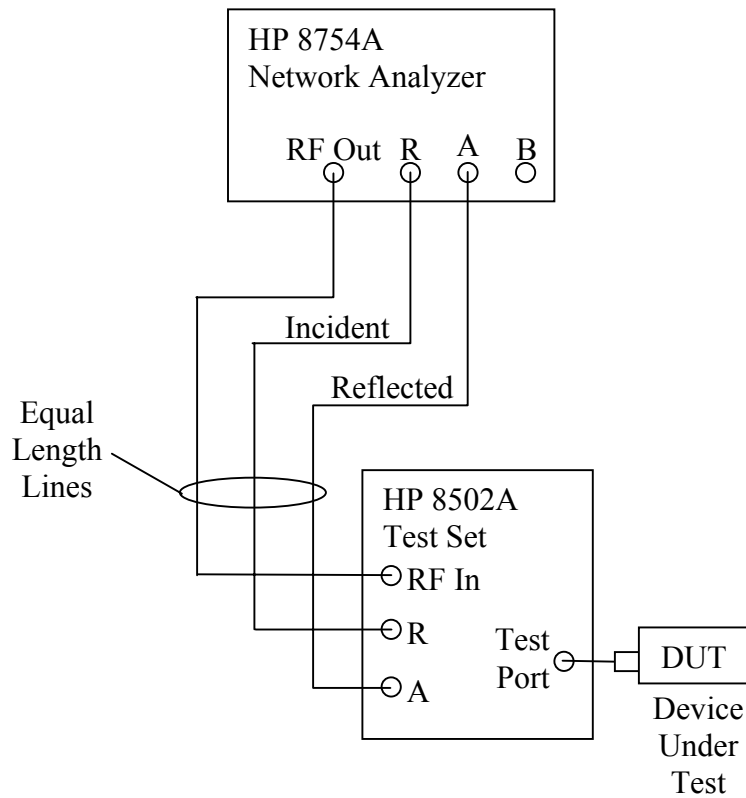

Figure 2: Configuration for Reflection Measurement
- 1) Connect the HP 8502A to the HP 8754A as shown in Figure 2 of Lab #1 for reflection measurements. Set sweep width to 0.
- 1) Connect the HP 8502A to the HP 8754A for reflection measurements as shown in Figure 2 of Lab #1.
- 5) Determine the value n in equation (10):